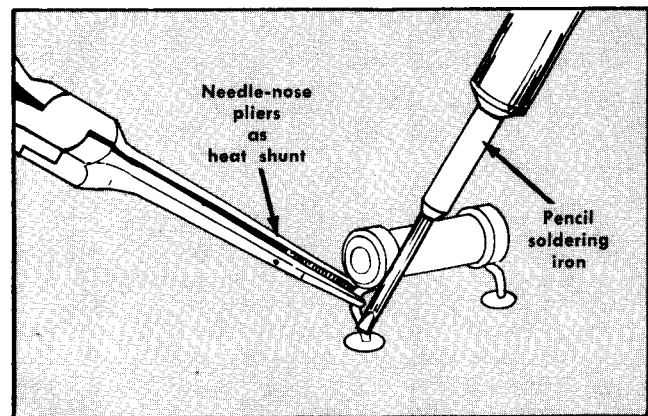

Fig. 6-2. Apply the soldering iron to the heat-shunted lead when removing a component from a circuit card.
**Replacement of other soldered-in components.** Grip the component lead with long-nose pliers. Touch the soldering iron to the lead at the solder connection. Do not lay the iron directly on the board, as it may damage the board. Refer to Fig. 6-2.